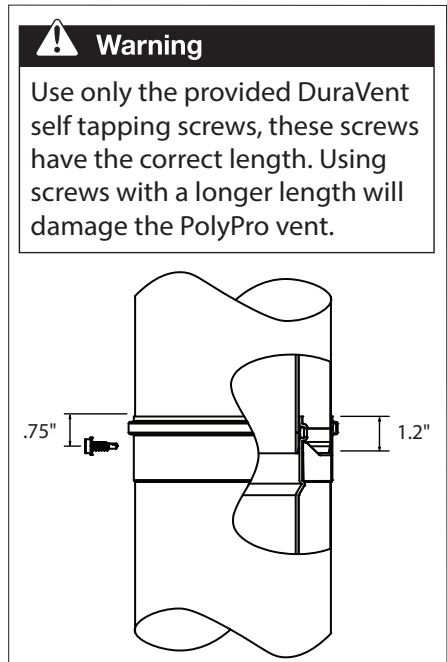

Figure 18
3. Use the two provided self-tapping screws to secure the outer vent sleeves at the joint, 3/4in from the edge and on opposite sides of the pipe. (**Fig. 18**)